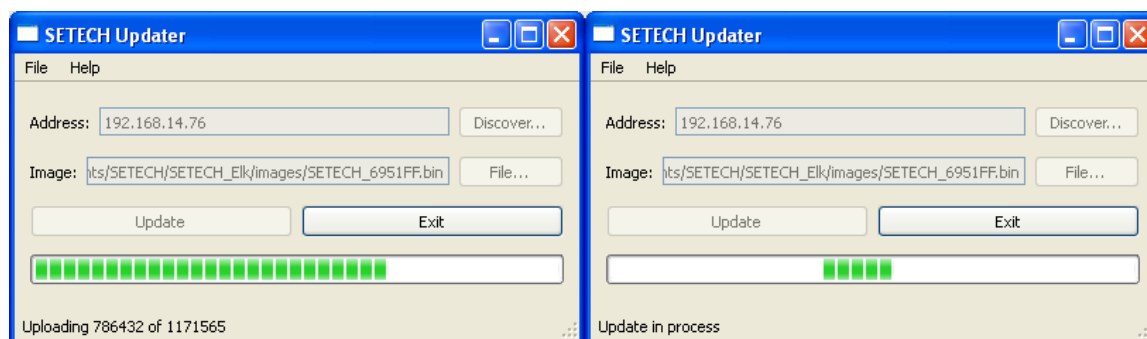

Figure 9 – Operating System Firmware Update In Process
5. Activate the **Update** button to start the update process (see Figure 9).